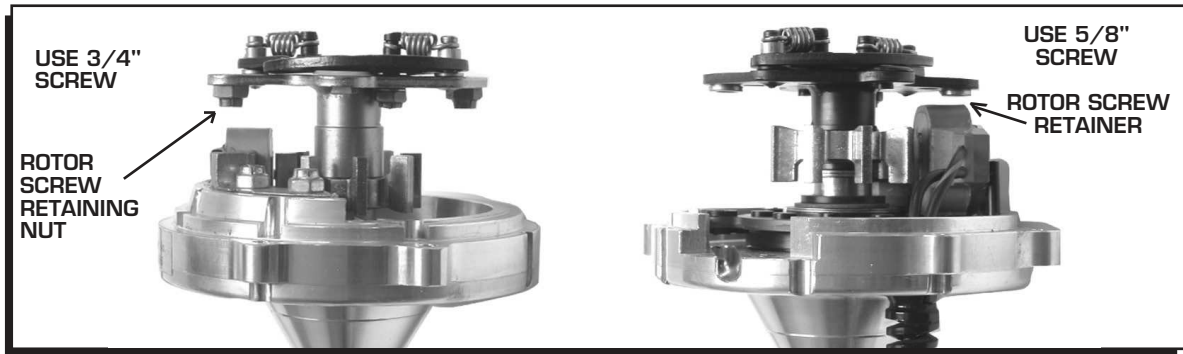

Figure 1 Determining Rotor Screw Length.
2. Before installing the Cap Spacer you need to determine which length rotor screw should be used. In some applications, the longer screw could make contact with the magnetic pickup and cause damage. Figure 1 shows the difference.